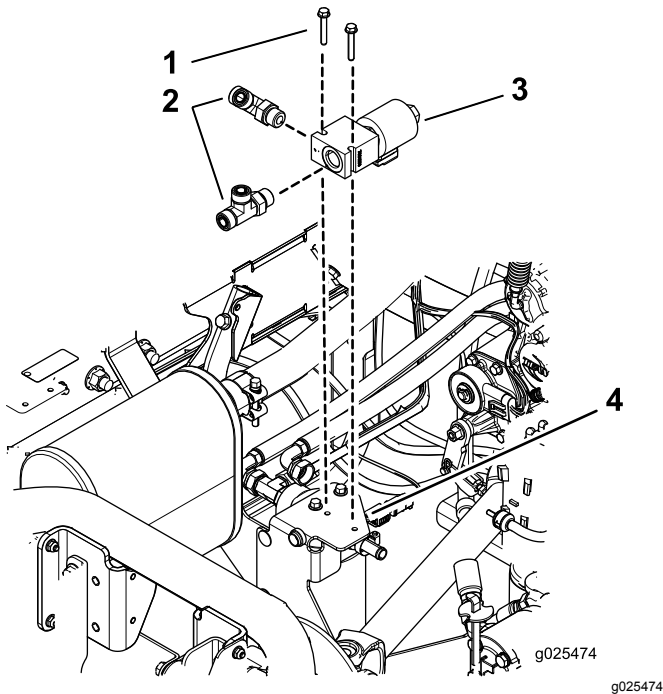

Figure 8
1. Loosely install the tee fittings onto the manifold (Figure 8).
2. Mount the manifold to the frame bracket with 2 flange bolts (1/4 x 1-7/8 inch) as shown in Figure 8.